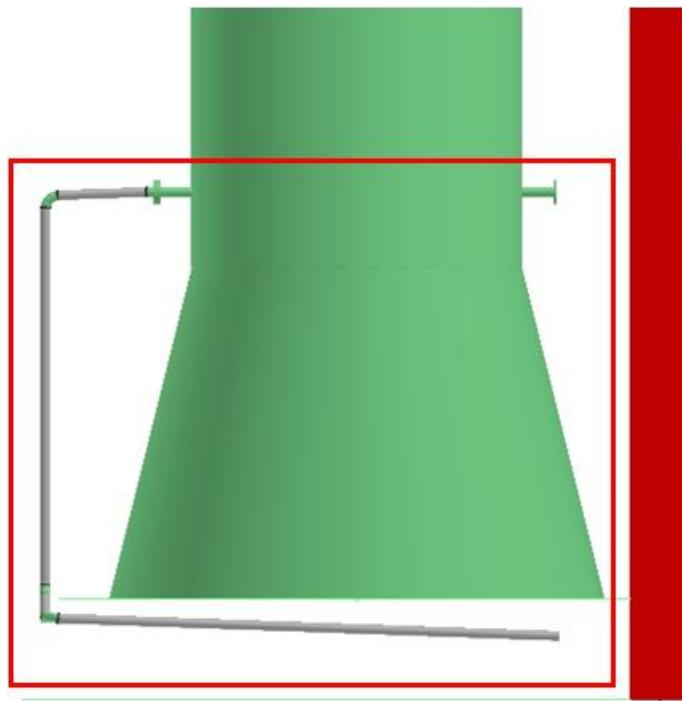

Figure 4. 59: Final Output
20. Click the **Common Views** button on the toolbar to switch to the **Looking South** view. This gives you a better view of the pipe you have placed. The view of your model should now resemble Figure 4. 59.